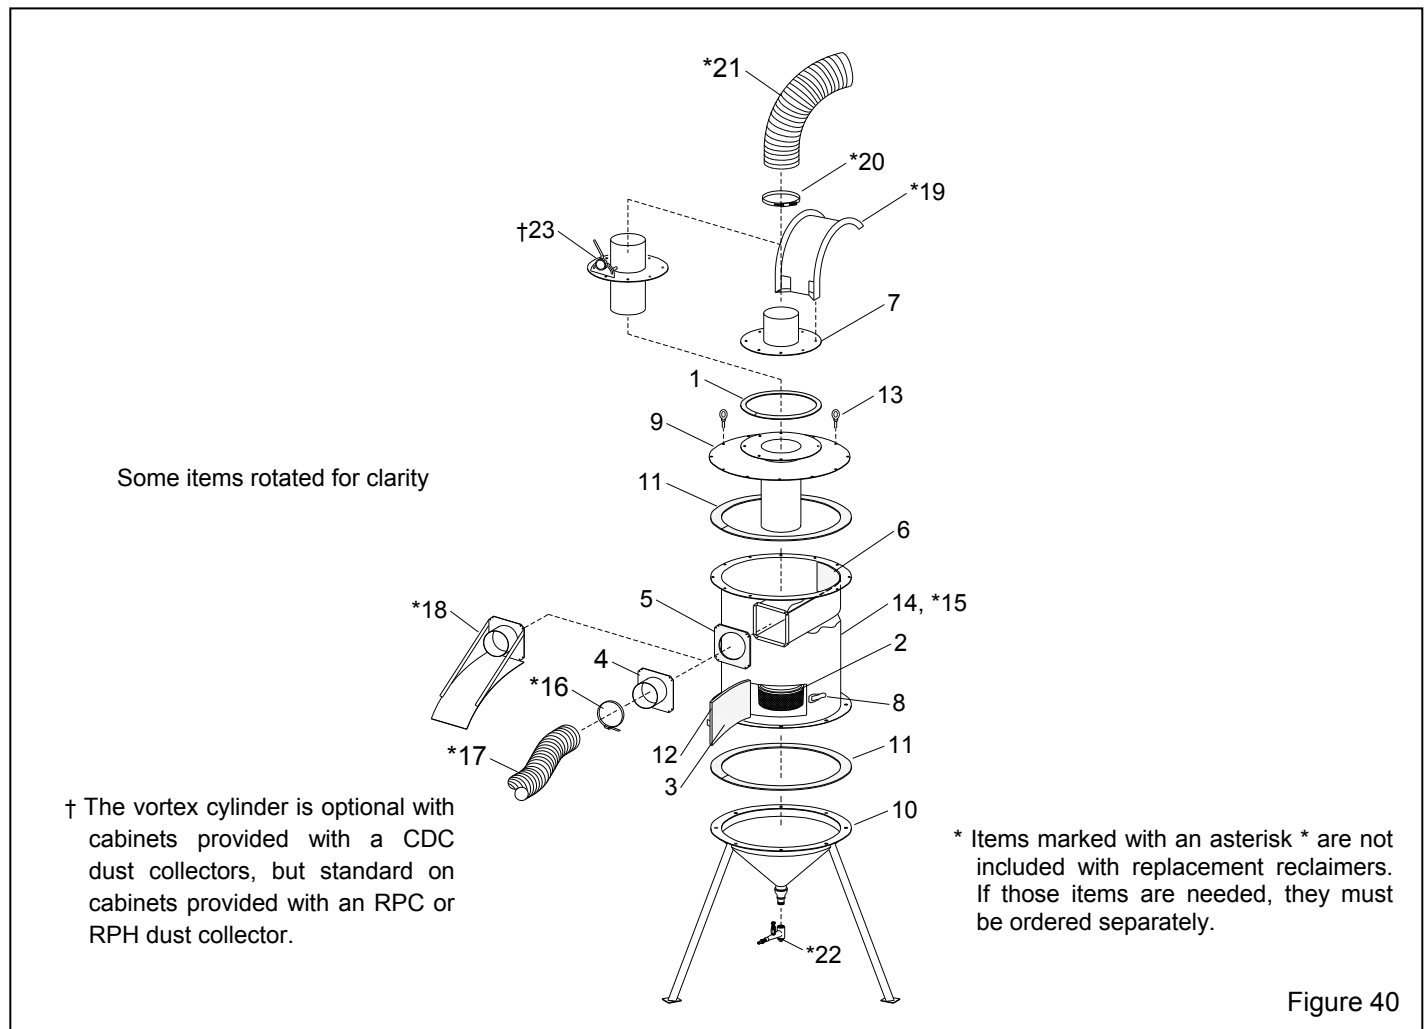

Figure 40
9.12 900 CFM Reclaimer Replacement Parts, Figure 40